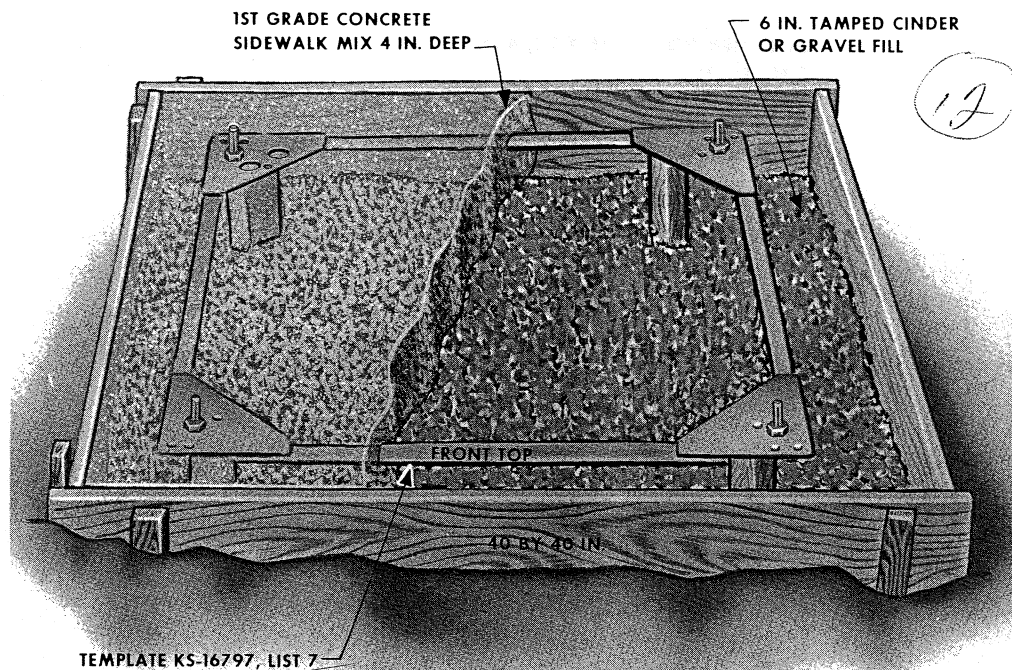

Fig. 1—Base Preparation with KS-16797, List 7 Template
2.04 When necessary to provide a concrete base, the KS-16797, List 7 template is used as shown in Fig. 1.